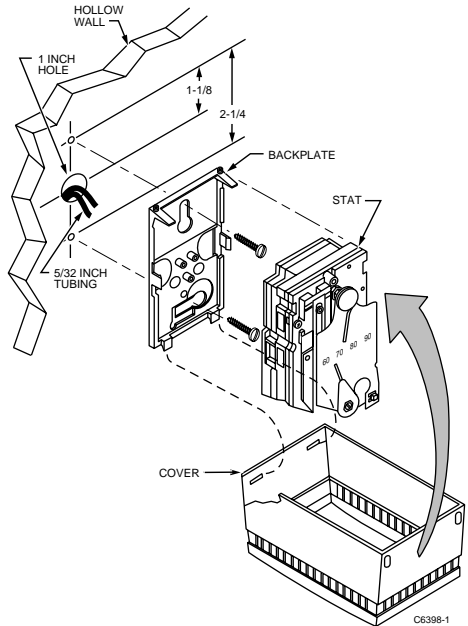

Fig. 4. TP971 and TP972A2218 controls and indicators. Front view—cover off.
1. Remove stat cover and install 0 to 30 psi (0 to 207 kPa) gage in gage tap (Fig. 4)
2. Turn setpoint indicator (Fig 4) up slowly.
2. Turn down setpoint indicator (Fig. 4) slowly.
3. Turn the calibration screw (see Fig. 4) until the gage reads 0 psi.